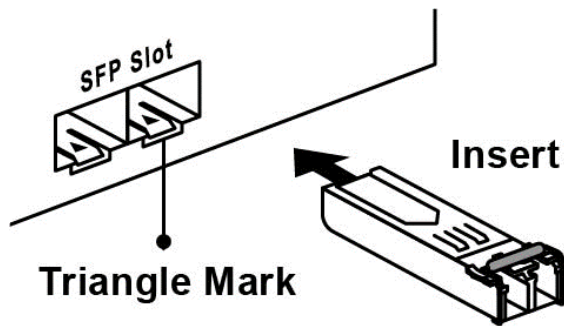
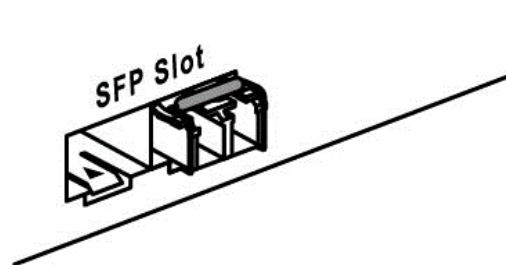

Figure 2.4: Transceiver to the SFP Module
Figure 2.5: Transceiver Inserted
Step 1. Insert the SFP transceiver module into the SFP slot as shown below in Figure 2.4. Notice that the triangle mark is at the bottom of the SFP slot. Figure 2.5 shows SFP transceiver module was inserted.